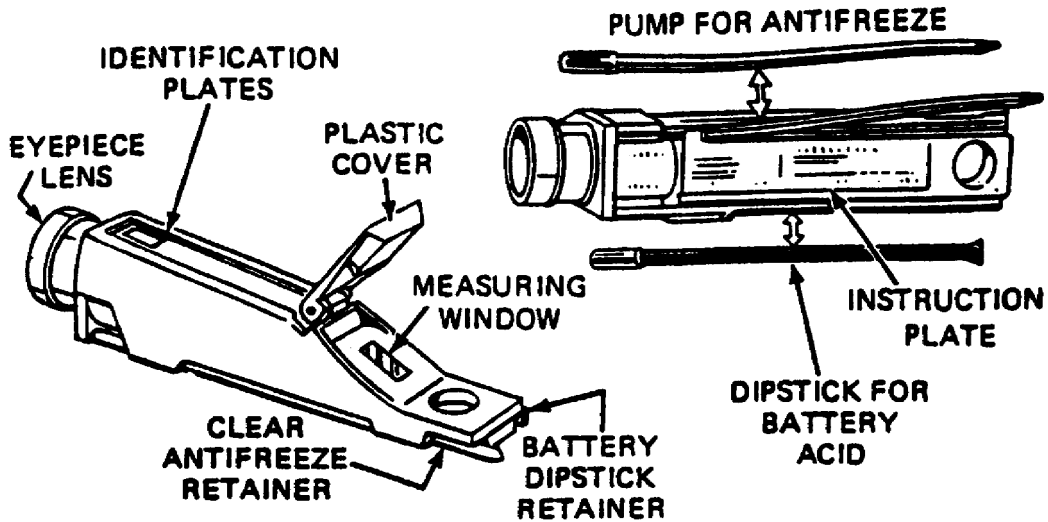

Figure 2-4. Optical/Antifreeze Tester (Duo-deck).
(5) Measure specific gravity. Use the optical battery/antifreeze tester "duo-check" (Figure 2-4), when measuring the specific gravity of a battery. This tester is quick, accurate, and reliable. There is no guesswork or arithmetic involved and the tester will automatically adjust for temperature.